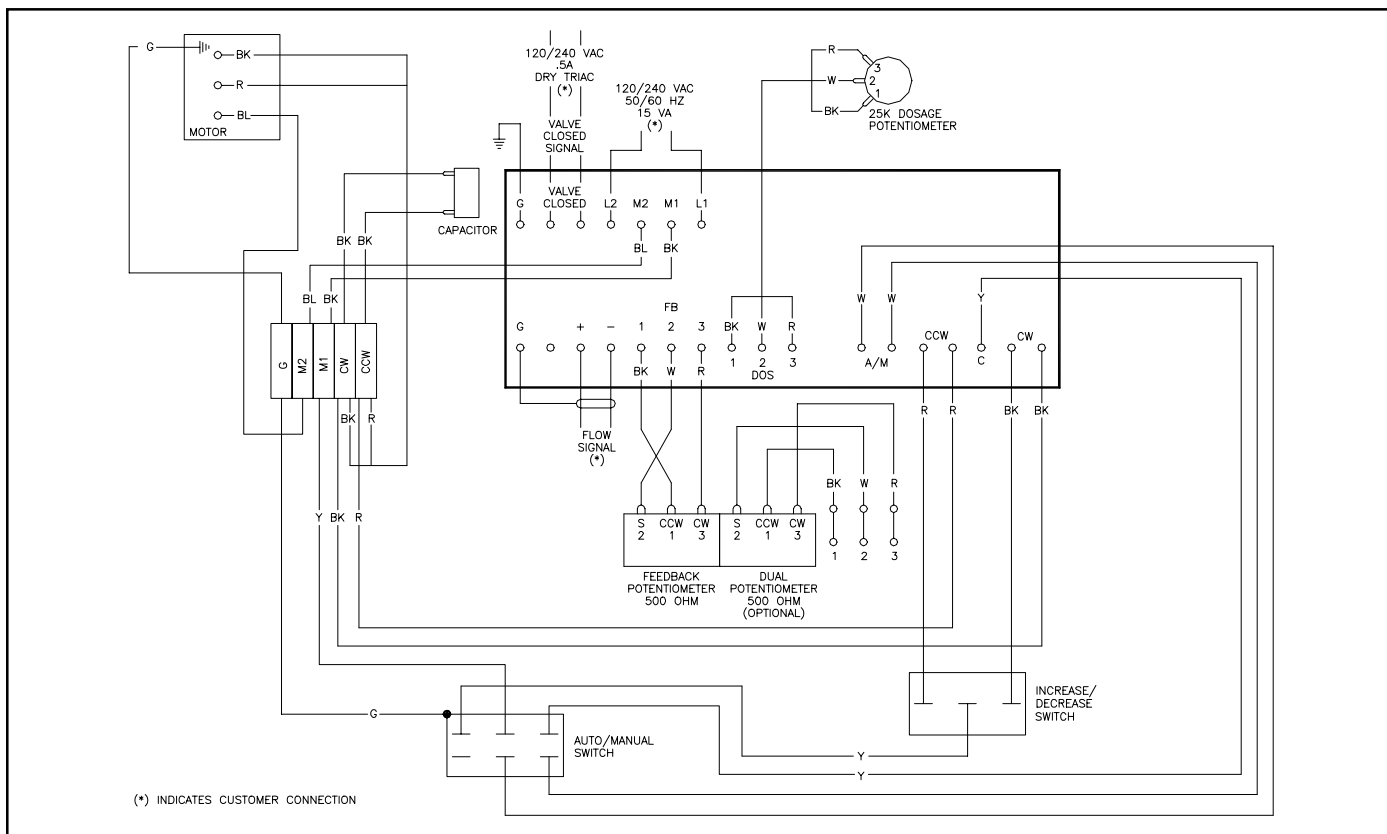

Figure 4 - Automatic Valve Wiring Diagram
2.2.2 Connect the line voltage, flow signal and alarm contact. Refer to Figure 4.